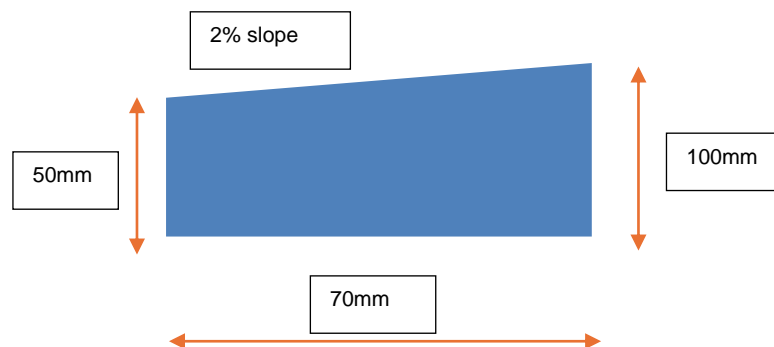

Figure 10: Proposed apron slab
- Ensure that edge restraints are formed similar to that of figure 10.